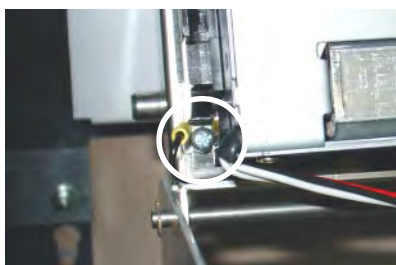

Figure 3-25. Loosen (do not remove) this screw to take the printer off of the mounting bracket.
9. Pull on the printer locking pin and pull the bottom of the printer bracket up and towards the front of the control panel. Refer to Figure 3-25. Loosen (do not remove) the screw and nut that secures the ground wire and the last corner of the printer assembly to its mounting plate. Slide the printer assembly from its mounting plate.